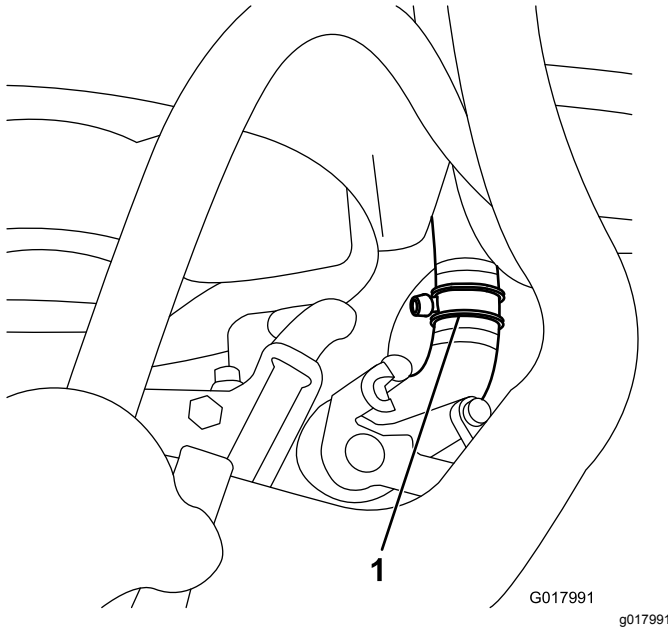

Figure 27
- Cut the lower radiator hose about 54 mm or 2-1/8 inches from the end of the hose going into the radiator (Figure 27).
- Connect the tee fitting to each newly cut end of the lower radiator hose with the 2 wide hose clamps (Figure 27).